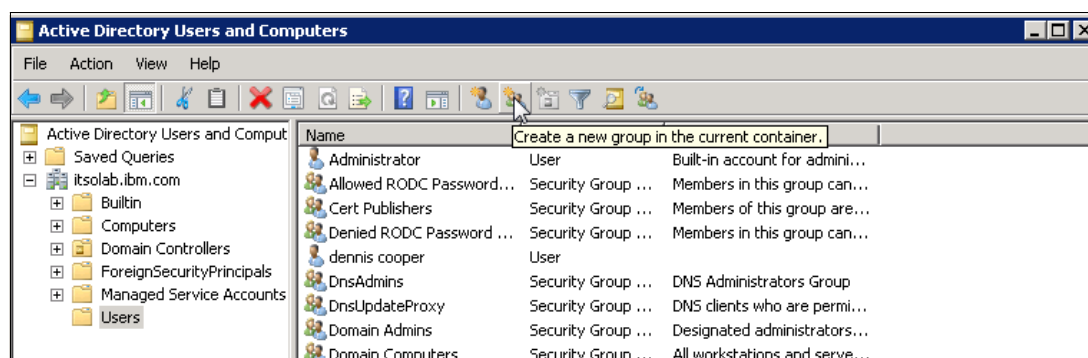

Figure 7-15 Active Directory Users and Computers window to create a group
1. To create this group, log on to the AD Domain Controller and configure Active Directory. An easy way to configure Active Directory from the AD controller is to select **Start** → **Run**, enter **dsa.msc**, and click **OK**. The Active Directory Users and Computers management console opens (see Figure 7-15).